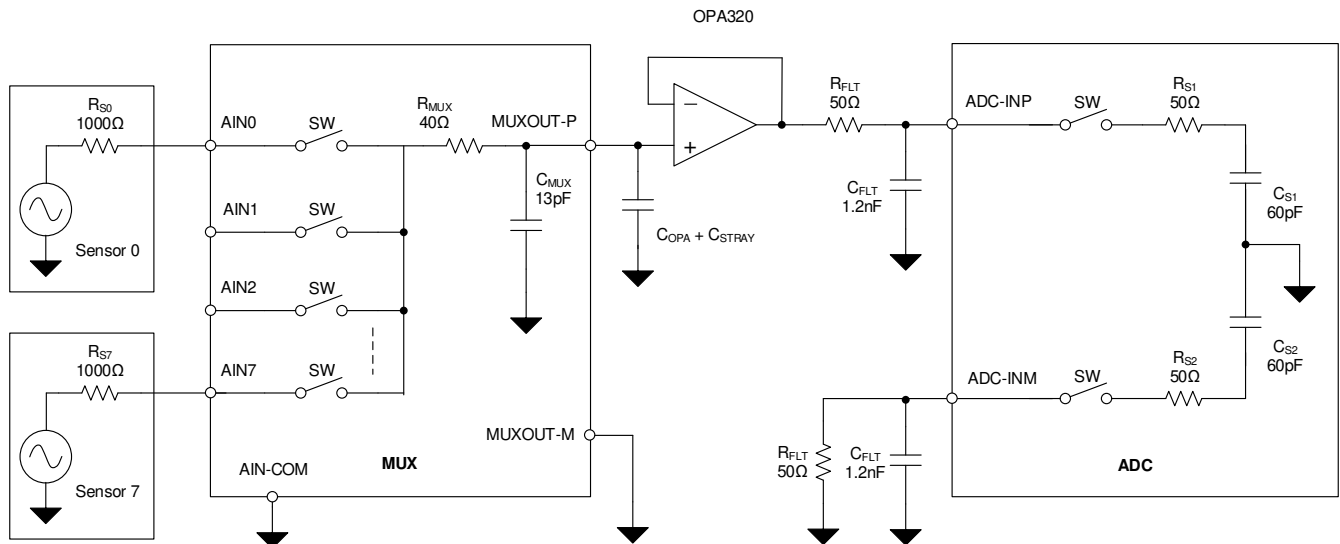
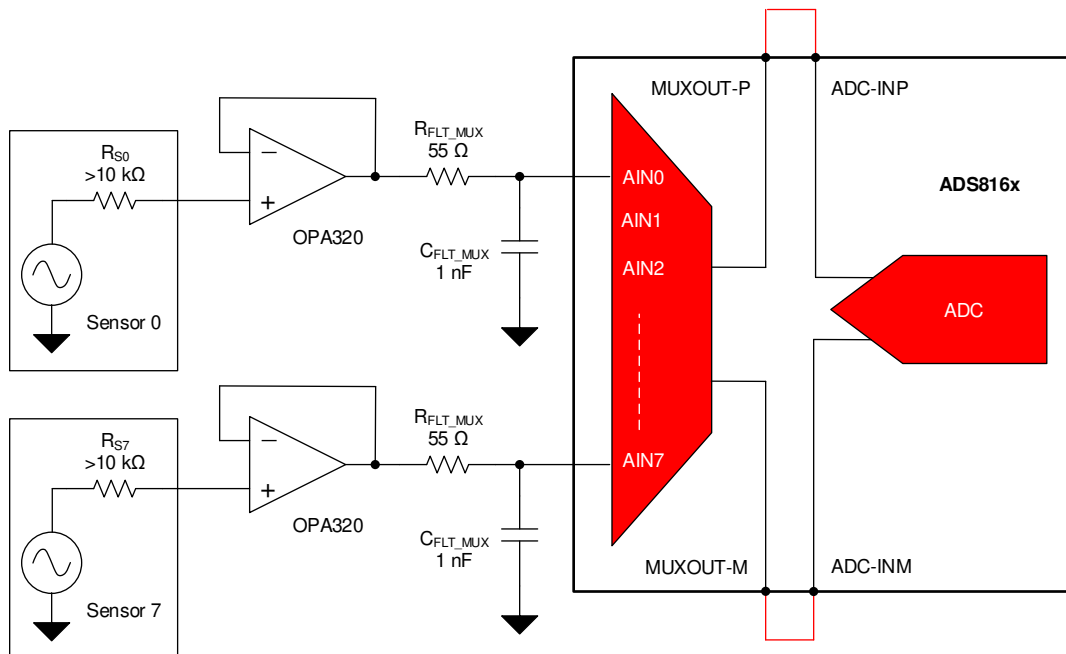

図 8-2. Direct Sensor Interface With the ADS816x in an 8-Channel, Single-Ended Configuration
図 8-3. High Output Impedance Sensor Interface
When connecting the sensor directly to the input of the ADS816x, the maximum switching speed of the multiplexer is limited by multiplexer on-resistance and parasitic capacitance. 図 8-2 illustrates the source resistance (R_{S0} , R_{S1} , and so forth), multiplexer impedance (R_{MUX}), multiplexer capacitance (C_{MUX}), op amp input capacitance (C_{OPA}), and the stray PCB capacitance at the output of the multiplexer (C_{STRAY}). In this example, the total output capacitance is the combination of the multiplexer output capacitance, the op amp input capacitance, and the stray capacitance ($C_{MUX} + C_{OPA} + C_{STRAY}$) = 15pF. When switching to a channel, make sure this capacitance is charged to the sensor output voltage with the source resistance and the multiplexer resistance ($R_{S0} + R_{MUX}$).
図 8-3 shows that the multiplexer inputs are driven using an amplifier. The multiplexer outputs are connected to the ADC inputs directly. For best distortion performance, place an amplifier between the multiplexer and the ADC as shown in 図 8-2.
- Select an input amplifier for rapid settling when the multiplexer switches channels. This selection is covered in the Multiplexer Input Connection section. The OPA320 buffer and associated RC filter illustrated in 図 8-3 meet these requirements.